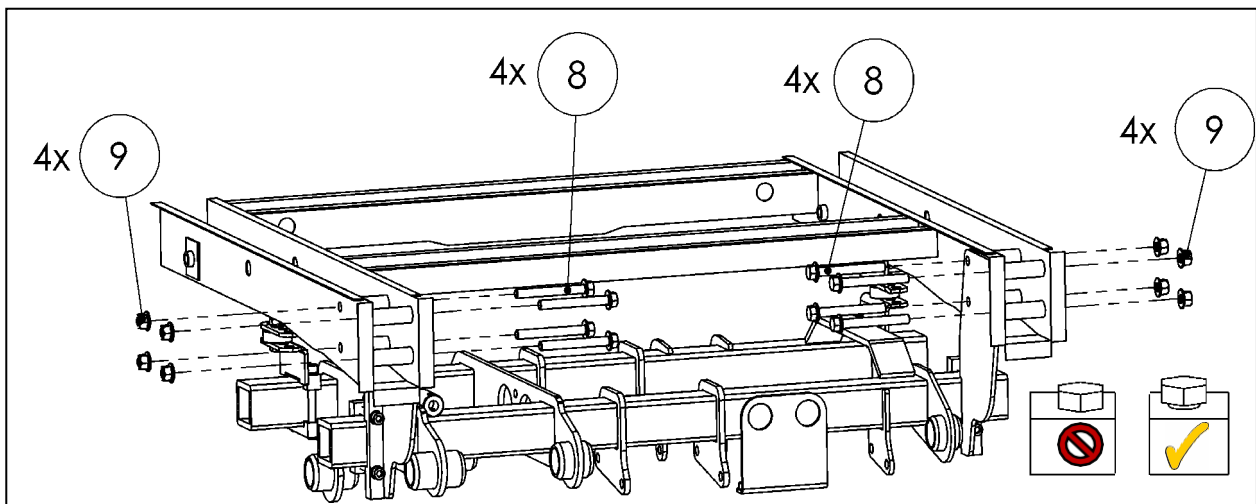

Figure 30
- Raise the lifting gear. Insert the rear bolts (**installation adapter kit – Part No. 22 911 216**) as viewed in the forward direction of travel and tighten until hand-tight as shown in Fig. 30.